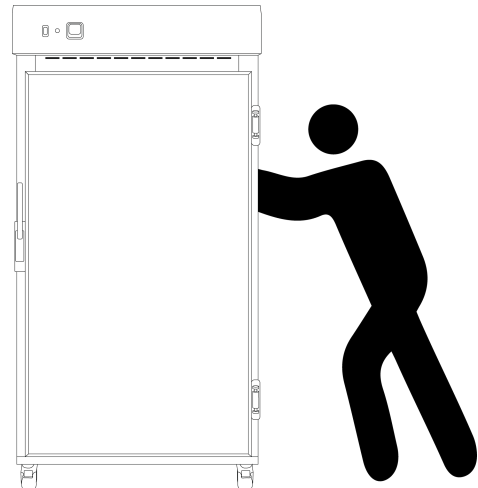

Fig 3. Safe moving of cabinet.
**NOTE:** Glassware drying ovens are 'Top Heavy'. Do not move the cabinet too quickly. (Fig 3 & 4)